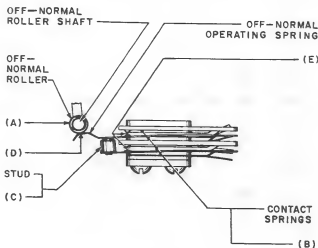

Fig. 13—Off-Normal Operating Spring and Roller Engagement
- 2.25 Off-Normal Roller Movement:** Fig. 13(A)
- 2.26 Spring Alignment:** Fig. 13(B)
- 2.27 Stud Alignment:** Fig. 13(C)—Studs shall be approximately centered with the springs against which they strike.
- (b) **204F Selector Only:** Fig. 13(D)—With the wiper assembly in its normal position, the off-normal roller shall rest on the surface of
- (a) **All Selectors:** Fig. 13(E)—The separation between any pair of contacts normally open shall be